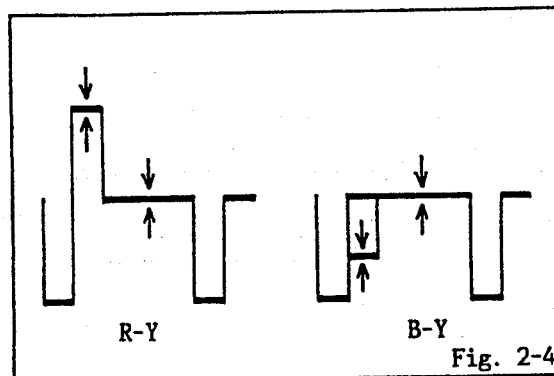

Fig. 2-4
3. Adjust VR601, L603 and VR607 until the waveform will be straight line. (Refer to Fig. 2-4)